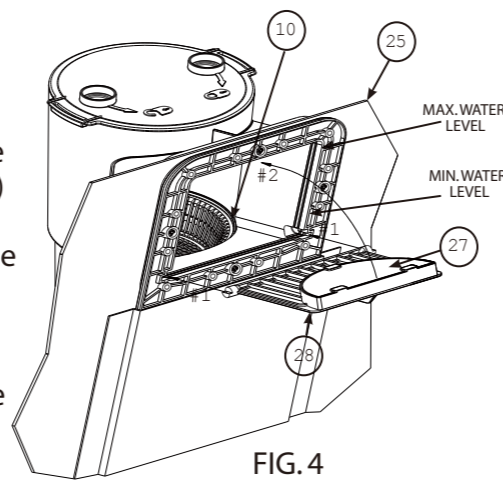

FIG. 4
E. Place the Filter Cartridge (9) and the Strainer Basket (10) back into the Skimmer Canister (8).
It is important that the Filter Cartridge (9) slips over the Pump Retaining Nut (7) and seals at the bottom of the canister so that the Strainer Basket (10) will seat in its groove inside the canister, see Fig. 4. Place the Lock Top (11) on top of the Skimmer Canister (8) and lock it in place by turning it clockwise until it is locked. Push the Weir Foam Pad (27) into the Weir (28) and under the tabs, to hold it in place. Take the Weir (28) and slide it into the grooves from inside the pool. See Fig 4. Once the Weir is pushed inside the grooves, flip it over as shown by the Arrow #2 in Fig. 4, to lock it in place. NOTE: The weir can ONLY be pushed into the grooves as shown by Arrows #1 in Fig. 4, by holding it horizontal. Be sure the weir moves freely through the opening, if not carefully trim away any obstructing material to allow the Weir to move freely.
F. After the pool is filled, SEE (WATER LEVEL FIG. 4) check the hose connections and fittings to make sure there is no water leakage. If any leaks are found, see #4 in the Trouble Shooting guide on page #9.